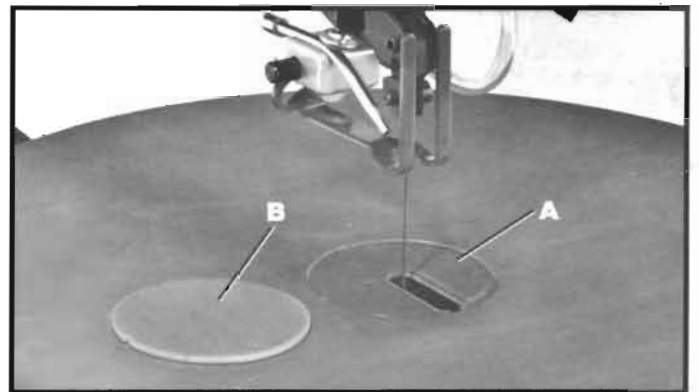

Fig. 16
A table insert blank (B) Fig. 16, is supplied as standard equipment with your scroll saw and can be used when cutting very small workpieces to give added support to the bottom of the workpiece. Simply cut a slot into the blank and replace the standard insert (A) with the blank (B). The slot cut into the blank (B) will only be as wide as the blade giving maximum support to the bottom of the workpiece.